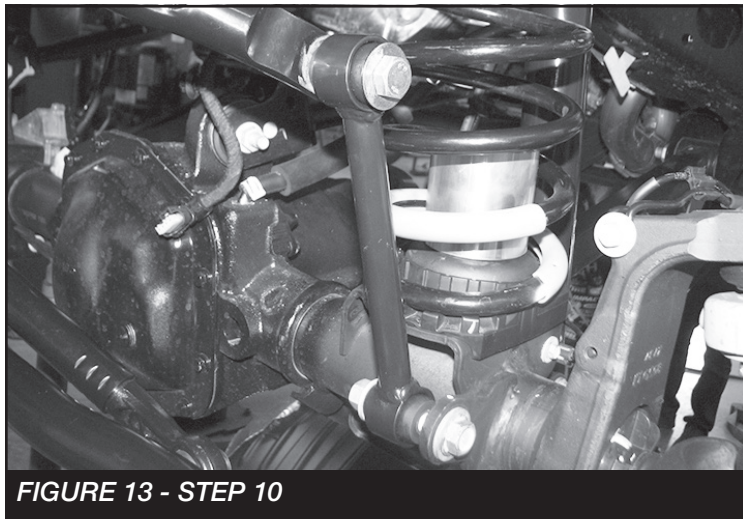

FIGURE 13 - STEP 10
10. Install FT50048 (Bushings) and FT404739 (Sleeves) into FT50261BK (Sway bar links). Then, install the links to the axle mount and sway bar using the supplied M12 x 70mm or M14 hardware (2024 Models) for the upper location and the factory for the lower. Torque to 65 ft-lbs. **SEE FIGURE 13**